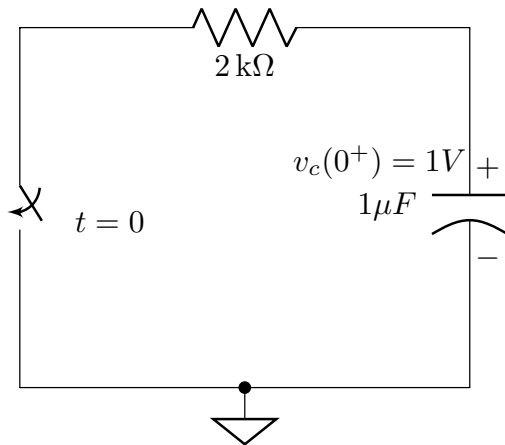

Figure 5: First-order RC circuit.
Consider the circuit shown in Fig. 5. Find the equation for the voltage across the capacitor.
Calculate the time constant of the RC circuit in Fig. 5. Using equation (1), find the equation for the voltage across the capacitor  $v_C(t)$  when  $v_C(0^+) = 1V$ . **[1 marks]**
2.3.2.1 Load the schematic for Fig. 5 by selecting **File**, then **Open**, and then **Hlab3-Task2.sch**. Now click **Open**. The schematic will look similar to the one shown in Fig. 7.
2.4.2.2 Construct the circuit shown in Fig. 5 in PSPICE schematic. The PSPICE schematic should look similar to the one shown in Fig. 11. The voltage source to use is VPULSE.